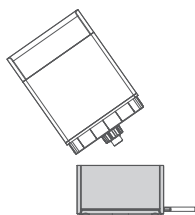

Figure 3
- 1.3 Remove the side tank and put it aside for cleaning (see Figure 3).